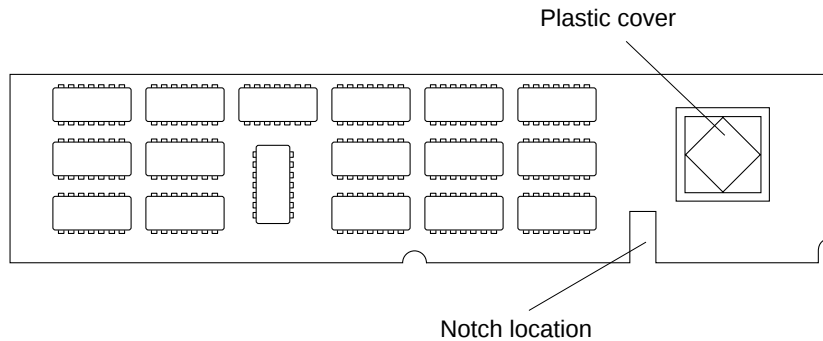

FIGURE 11-28 VSIMM, Back View
5. **If installing a VSIMM, position the VSIMM with the plastic cover facing the system unit front panel. The notched portion of the VSIMM should be near the center of the system board (FIGURE 11-28).**